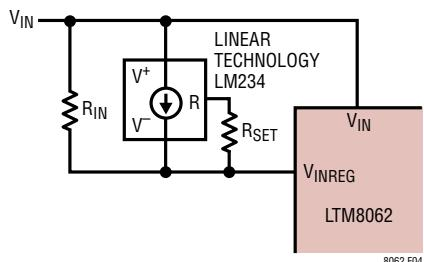

Figure 4. MPPT Temperature Compensation Network
In the circuit shown in Figure 4,
As the temperature coefficient for V_{MP} is similar to that of V_{OC} , the specified temperature coefficient for V_{OC} (TC) of $-78mV/^{\circ}C$ and the specified peak power voltage ($V_{MP}(25^{\circ}C)$) of 17.6V can be inserted into the equations to calculate the appropriate resistor values for the temperature compensation network in Figure 4. Initially, determine the R_{SET} value using the following equation: